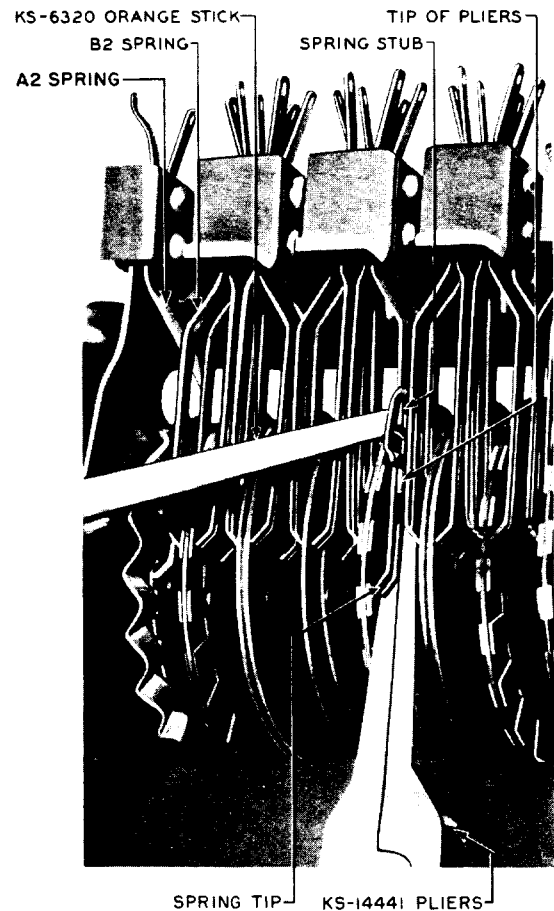

Fig. 2 - Method of Mounting Outer Spring Tips
3.05 Except when placing a new spring tip on a B2 spring, grasp the tip from below just behind the bend at the contact end, using the KS-14441 pliers. For B2 springs, grasp the new tip from above instead of below. Push the spring tip onto the spring stub. Use the KS-6320 orange stick to guide the stub into the openings of the tip as shown in Fig. 2. Push straight in and at the same time move the outer end of the tip up